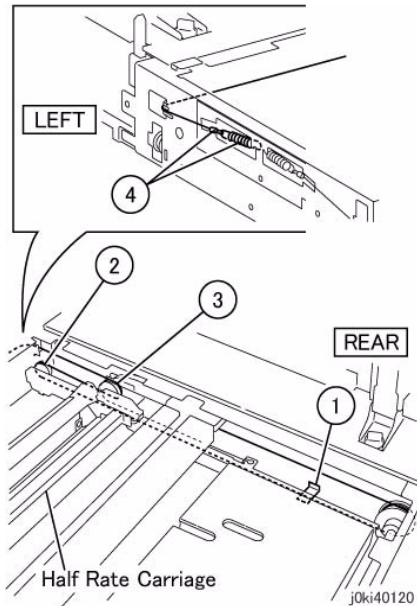

Figure 9 Install the spring end of the Carriage Cable
6. Install the spring end of the Carriage Cable. (Figure 9)